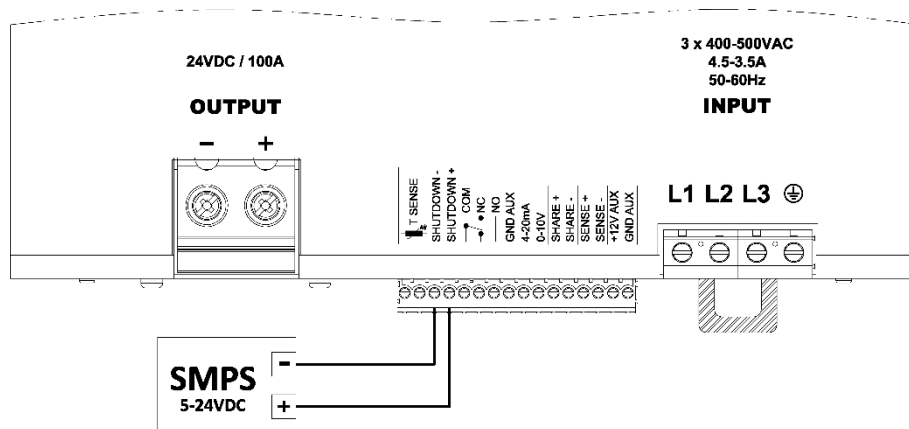

Figure 14 : Remote shutdown input connection with external signal
- External signal:** when applying an external DC voltage as shown on Figure 14 from 5VDC to 24VDC to the SHUTDOWN inputs the NPS2400 output will be turned ON or OFF depending on the programmed shutdown polarity (see §6.4.9).